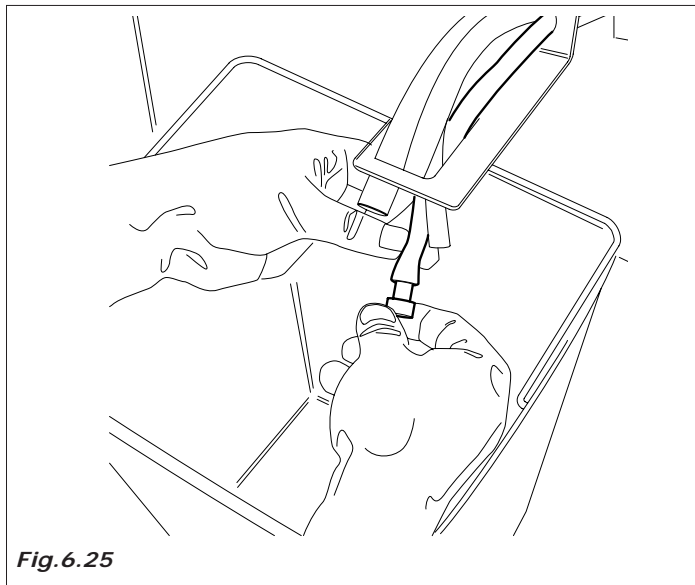

Fig.6.25
- empty completely the instant boiler and the floater reservoir removing the plug located on the hose along the drain chute (Fig. 6.25).